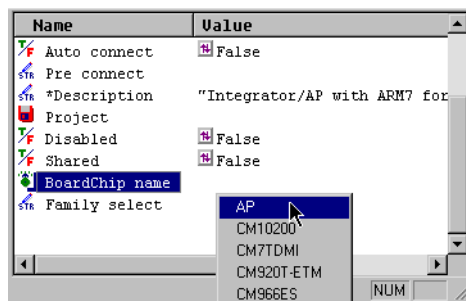

Figure 3-20 The new RDI Target connection
11. Click **AP** to select the Integrator/AP description (Figure 3-20 on page 3-24). A new entry *BoardChip_name AP is added to the pane.